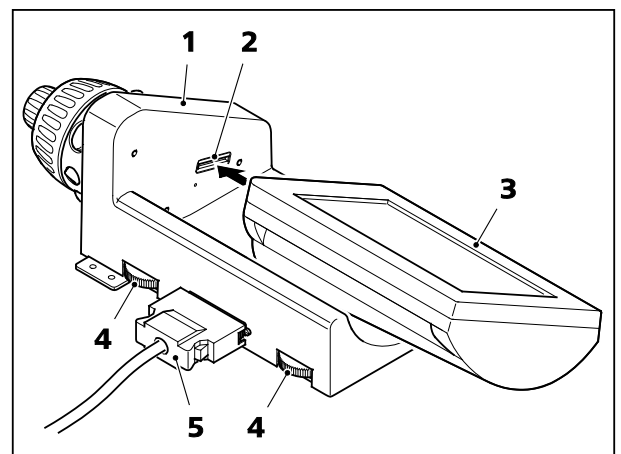

Fig. 42 Fitting the TFT display to the docking station
- Put the TFT display (Fig. 42/3) on the docking station (Fig. 42/1) and screw it on, using the long Allen screwdriver provided. Ensure that the pin contact (Fig. 42/2) is inserted precisely into the relevant opening.
- Insert the docking station cable (Fig. 42/5) into the connector on the rear of the stand.
- The angle of the TFT display can be adjusted using the two knurled screws (Fig. 42/4) on the rear of the docking station.